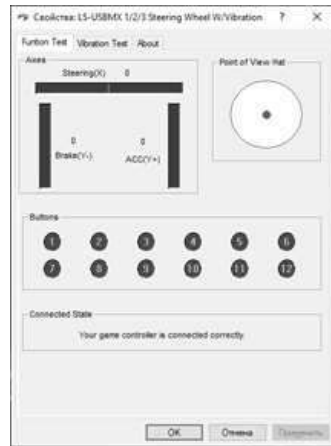
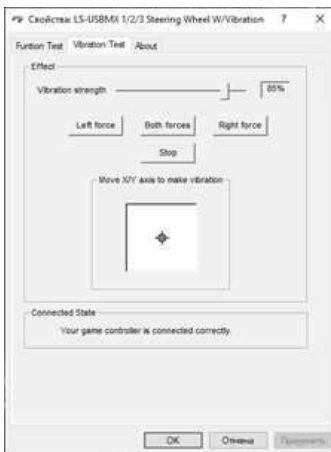

Fig. 6
Fig. 7
• Click on «Properties» button on the PC display «Properties: LS-USBMX 1/2/3 Steering Wheel W/ Vibration» window will appear (see Fig. 6). Here you can check the operation of the axes and keys, check and adjust the vibration feedback «Vibration Test» (see Fig. 7).